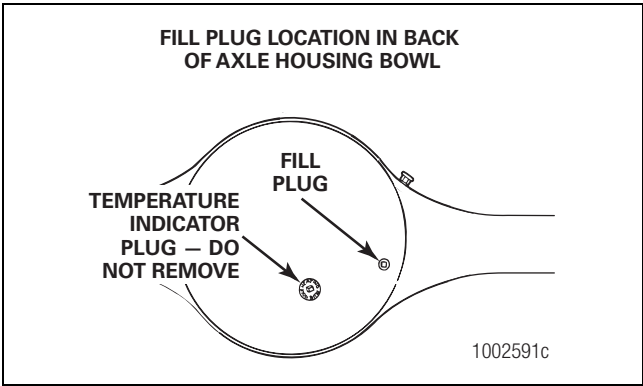

Figure 5.122
- 2. Remove the fill plug from the side of the bowl cover of the axle housing. Figure 5.122.